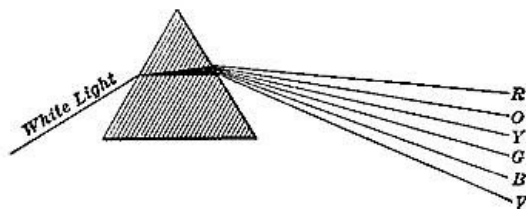

FIG. 86.—White light is a mixture of lights of rainbow colors.
**127. How to produce Rainbow Colors. *The Spectrum.*** If a beam of sunlight is admitted into a dark room through a narrow opening in the shade, and is allowed to fall upon a prism, as shown in Figure 86, a beautiful band of colors will appear on the opposite wall of the room. The ray of light which entered the room as ordinary sunlight has not only been refracted and bent from its straight path, but it has been spread out into a band of colors similar to those of the rainbow.